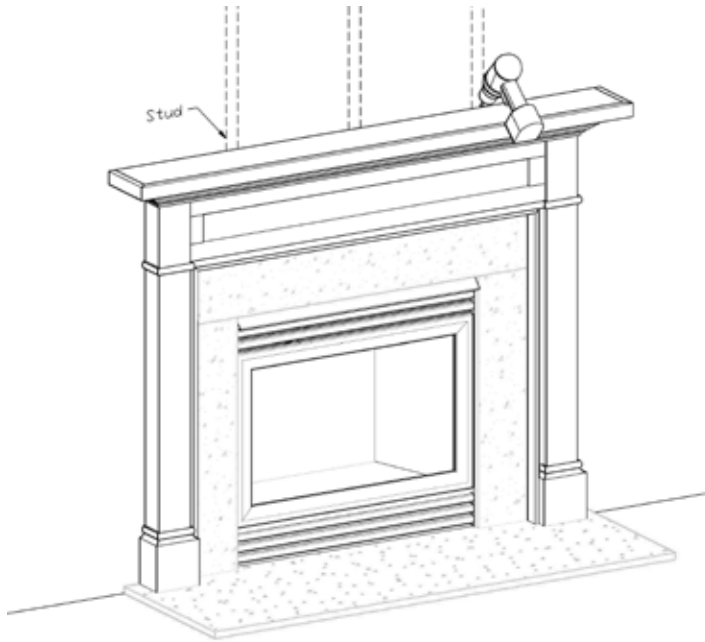

Figure 11
8. Using a stud finder, locate at least two studs in the wall above the fireplace. Holding the mantel tightly against the wall, drill 3/32" pilot holes at a 45 degree angle down through the top of the shelf, as shown in Figure 11. Using the provided screws, secure the mantel to the wall. Fill the resulting hole with an appropriate filler. If the mantel requires securing at the legs, repeat this process at a location where there is a stud or other backing in the wall.